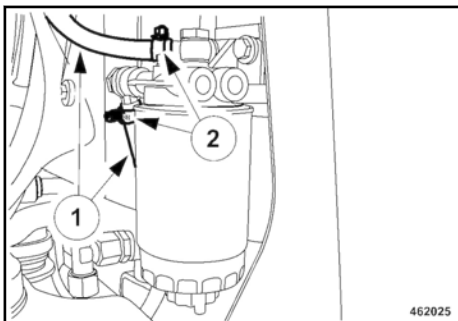

Fig. 129
Check the condition and tight fit of all fuel lines (1) ↪ Fig. 129 and hose clamps (2).